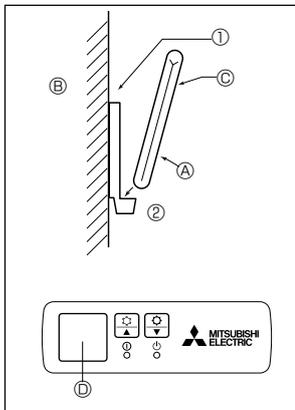
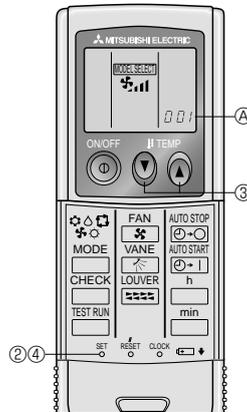

Fig. 6-5
Fig. 6-6
2) Installation method (Fig. 6-5)
- ① Attach the remote controller holder to the desired location using 2 tapping screws.
- ② Place the lower end of the controller into the holder.
3) Setting (Fig. 6-6)
- ① Insert batteries.
- ② Press the SET button with something sharp at the end.
- ③ Press the temp \odot \ominus buttons to set the Model No.
- If you mistook the operation, press the ON/OFF \odot button and operate again from procedure ③.
- ④ Press the SET button with something sharp at the end.